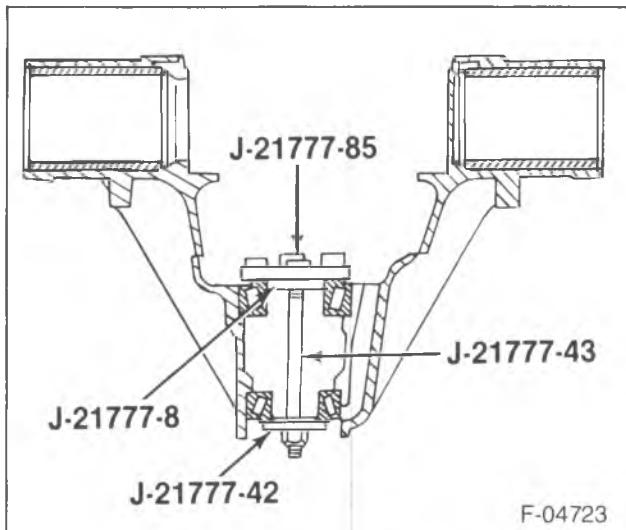

Figure 11—Gage Plate Tools
- Place the bearings (10) and (13) into the pinion bearing cups.
- Install J 21777-8, J 21777-42, J 21777-85 and J 21777-43 to the pinion bore (figure 11).